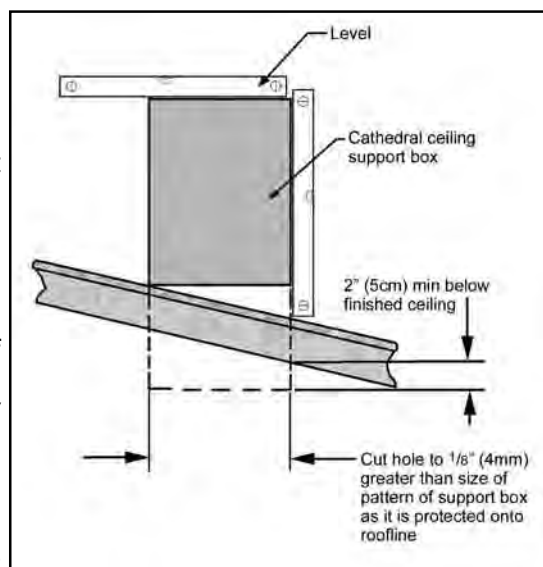

Figure 19: Cathedral Ceiling Support Box Leveling.
STEP 4. Lower the "Support Box" through the hole in the roof until the bottom of the "Support Box" protrudes at least 2 inches (5 cm) below the ceiling. Align the "Support Box" both vertically and horizontally with a level as shown in Figure 19. Temporarily tack the "Support Box" in the place through the inside walls and into the roof sheathing.